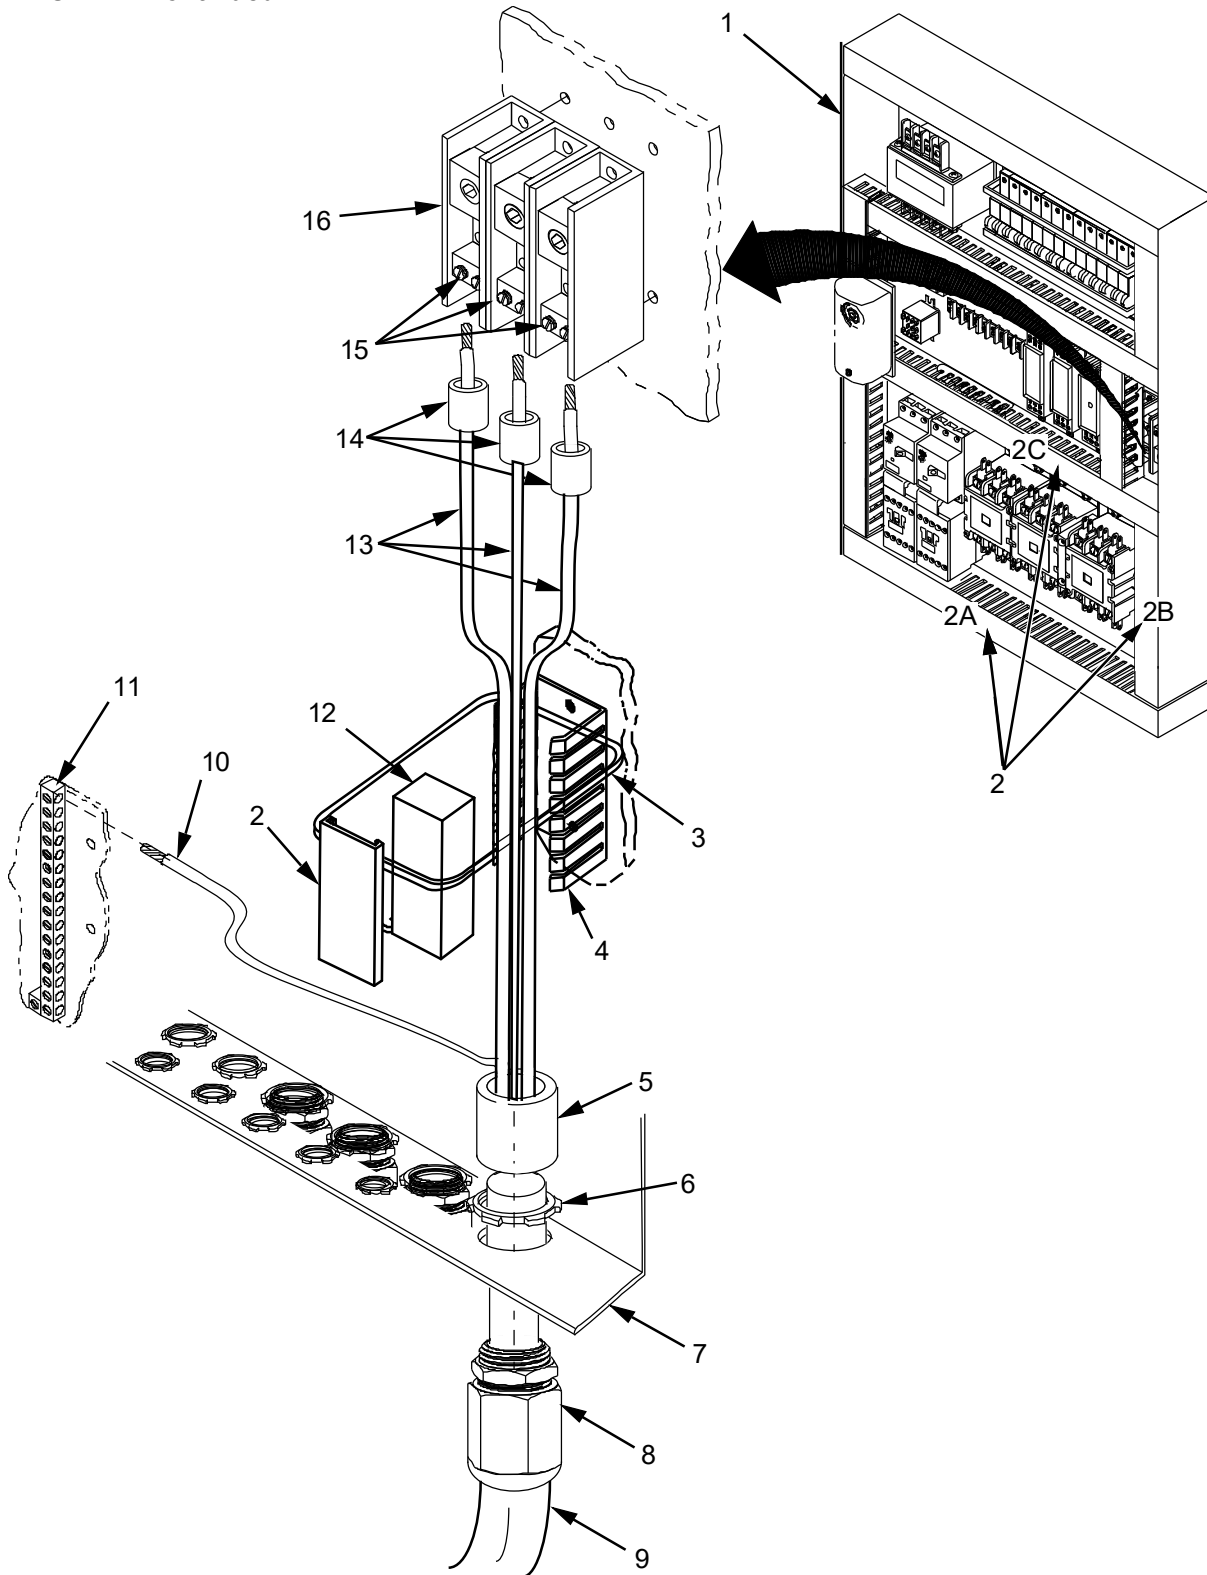
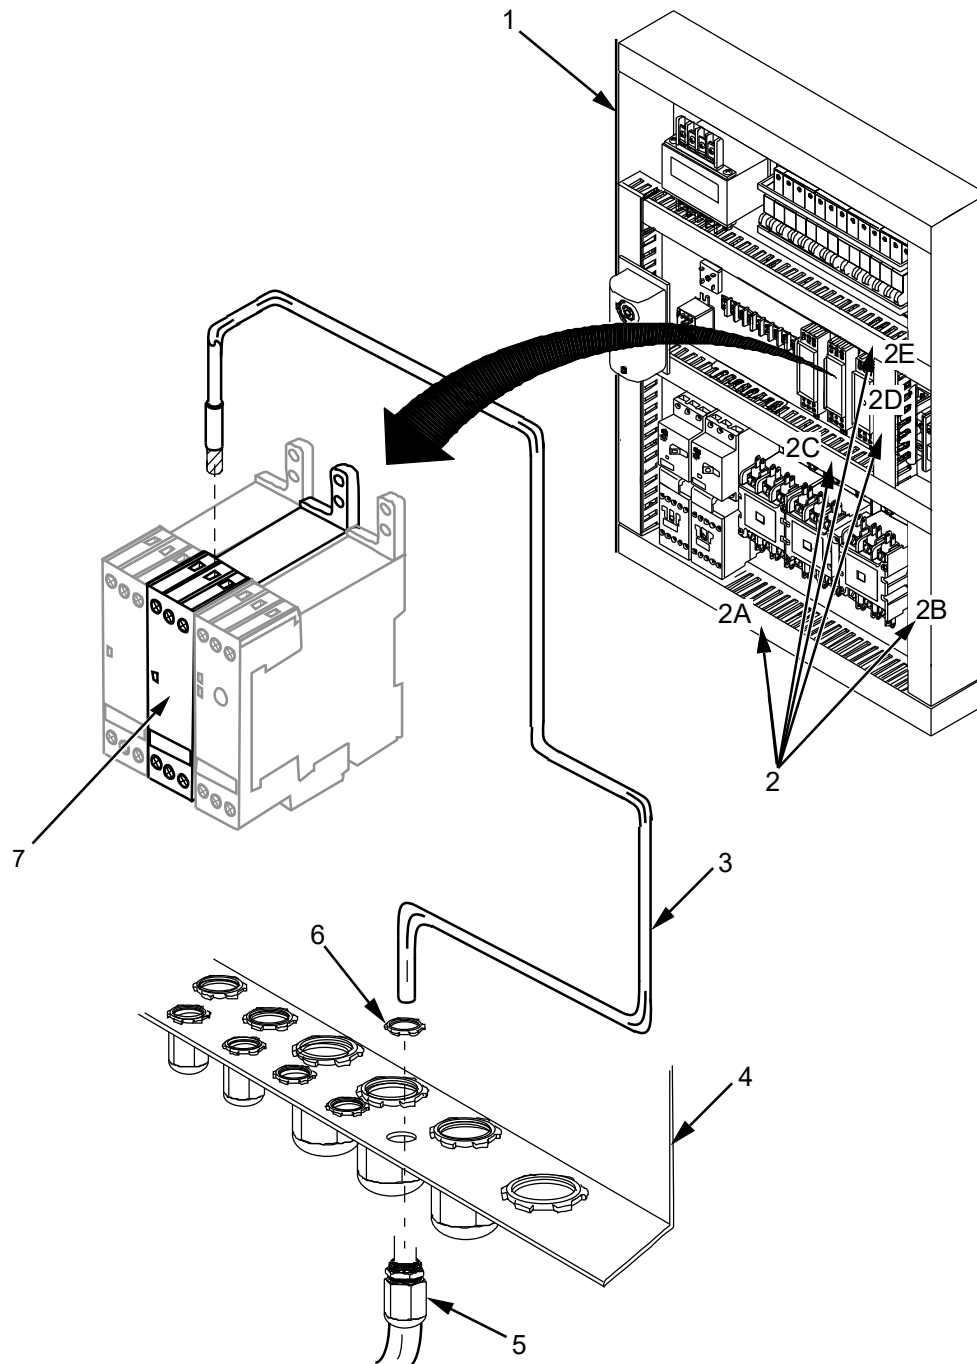

Figure 7. Replace ECU Power Cable.
Figure 8. Replace ECU Communications Cable.
4. Open Control Panel (Figure 7, Item 1) and remove three wire raceway covers (Figure 7, Item 2).
5. Loosen nut (Figure 7, Item 6) on power cable connector (Figure 7, Item 8) on bottom of Control Panel Figure 7, Item 7).
6. Cut cable tie holding capacitor in right side raceway (Figure 7, Item 2B) and pull Capacitor out and allow to hang down. Do not remove Capacitor leads from their connections.
7. Disconnect power cable ground lead (Figure 7, Item 10) from ground strip (Figure 7, Item 11).
8. Note power cable colors and positions in power cable Junction block (Figure 7, Item 16).
9. Remove silicon gasket material from power cables and remove three ferrites (Figure 7, Item 14).
10. Loosen terminals (Figure 7, Item 15) in power cable junction block (Figure 7, Item 16) that secure power cables (Figure 7, Item 13) and remove from their respective terminals.
11. Remove small ferrites (Figure 7, Item 14) from power cables and set off to the side for re-use.
12. Pull power cables (Figure 7, Item 13) down through raceway (Figure 7, Item 2B) and through large ferrite (Figure 7, Item 5).
13. Grasp cord connector Figure 7, Item 8) from under Control Panel (Figure 7, Item 7) and pull power cable assembly (including three power cables, power cable ground lead, and large cord connector) down and away from Control Panel.
2. Pull the power cable through the bottom of the ECU Control Panel (Figure 7, Item 7). As the power cable is drawn up through the bottom of the Control Panel, place the cord connector nut (Figure 7, Item 6) and the large ferrite (Figure 7, Item 5) over the cable.
3. Draw the power cable all the way through the Control Panel so that the cord connector (Figure 7, Item 8) is drawn into its mounting location.
4. Route the power cable upwards until the power cord ends reach the lower terminals (Figure 7, Item 15) of the power cable junction block (Figure 7, Item 16).
5. Separate the ground wire (Figure 7, Item 10) from the power cable group and route to the ground strip (Figure 7, Item 11).
6. Connect the ground wire (Figure 7, Item 10) to the terminal strip (Figure 7, Item 11) and secure.
7. Slide the three small ferrites (Figure 7, Item 14) over the three power cable leads (Figure 7, Item 13).
8. Connect the three power cables to their respective terminals (Figure 7, Item 15) on the power cable junction block (Figure 7, Item 16) and secure the cables.
10. Route the power cables through the raceways (Figure 7, Item 2A, 2B and 2C).
12. Tighten the power cable connector nut Figure 7, Item 6).
13. Replace all raceway covers (Figure 7, Items 2A, 2B, and 2C).
4. Open Control Panel (Figure 8, Item 1) and remove five wire raceway covers (Figure 7, Item 2A, 2B, 2C, 2D, and 2E).
5. Loosen nut (Figure 8, Item 6) on communications cable connector (Figure 7, Item 8) on bottom of Control Panel Figure 8, Item 7).
6. Loosen center terminal screw in relay (Figure 8, Item 7) that secures communications cable (Figure 8, Item 3) and remove cable from relay.
12. Pull communications cable (Figure 8, Item 3) out of raceways (Figure 7, Item 2E, 2D, 2C, 2B, and 2A).
13. Grasp communications cable connector Figure 8, Item 5) from under Control Panel (Figure 8, Item 1) and pull communications cable assembly down and away from Control Panel.
1. Place cord connector (Figure 8, Item 5) over communications cable (Figure 8, Item 3) and pull cable through connector.
2. Grasp communications cable connector (Figure 8, Item 5) from under Control Panel (Figure 8, Item 1) and pull communications cable assembly up into Control Panel.
3. Slide connector nut (Figure 8, Item 6) over communications cable (Figure 8, Item 3) and thread nut onto connector but do not tighten at this time.
4. Route communications cable up to and into relay and secure by tightening center terminal screw (Figure 8, Item 7).
5. Tuck communications cable (Figure 8, Item 3) into raceways (Figure 7, Item 2E, 2D, 2C, 2B, and 2A).